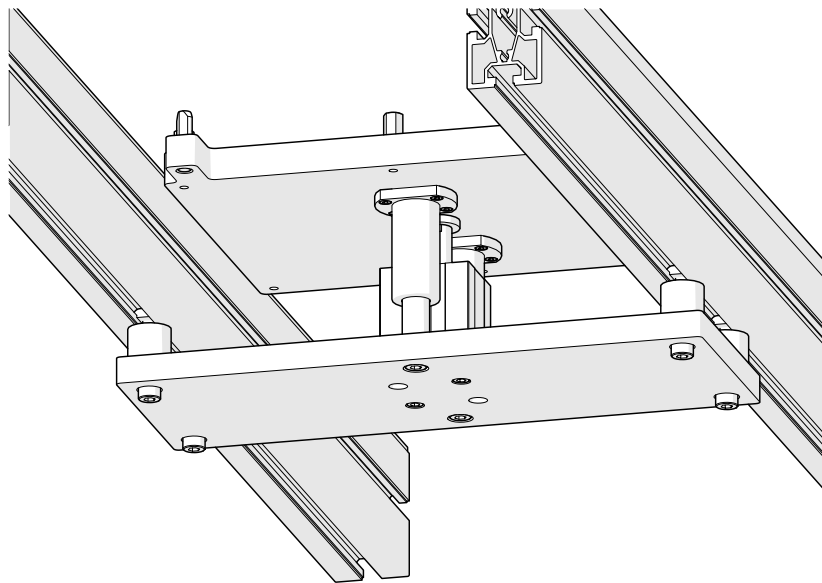

Figure 7: Lining Up M8 SHCS
Step 5: Make sure that P-00223 are aligned properly in the extrusion as shown in Figure 7.